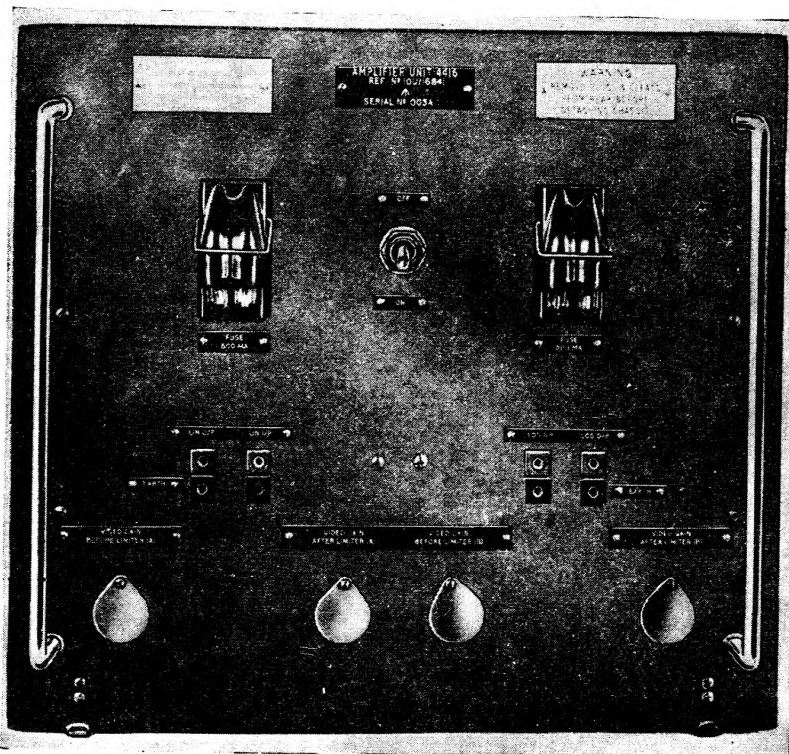

Fig. 1. Amplifying unit (video) 4416 : front panel
1. Amplifying unit (video) 4416 (fig. 1, 2 and 3) contains two separate but similar video amplifier channels. One channel (A) accepts the output from amplifying unit (linear) 4141 and the other channel (B) accepts the output of amplifying unit (logarithmic) 4142 (*A.P.2527Q, Vol. 1, Part 1, Sect. 6, Chap. 3*). Both amplify and limit the signals from Radar Type 80 before passing them to the display consoles.